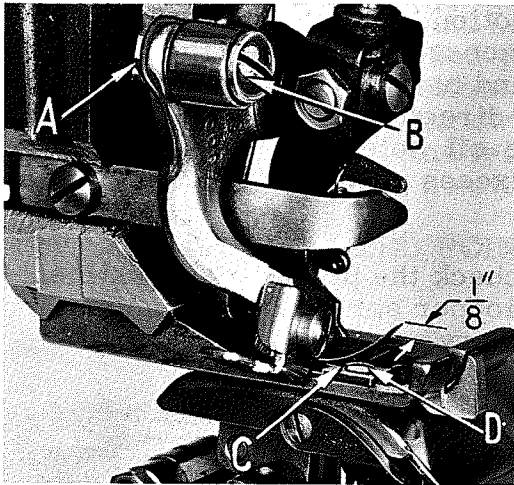

Fig. 7
Normal needle stroke setting is correct when the point protrudes approximately $\frac{1}{8}$ inch beyond the right edge of presser foot at the end of its right stroke (Fig. 7). Increase to approximately $\frac{5}{32}$ inch if a larger needle loop is required. If adjustment of the needle stroke is necessary, loosen the lock-nut (A, Fig. 7) and turn screw (B) to the right or left as required. Tighten the nut.
The needle should travel in the center of the groove in the needle guide (C, Fig. 7). If the needle is deflected from front to the back in its travel, loosen screw (D) holding the needle guide and allow needle to position the guide. Retighten the screw.